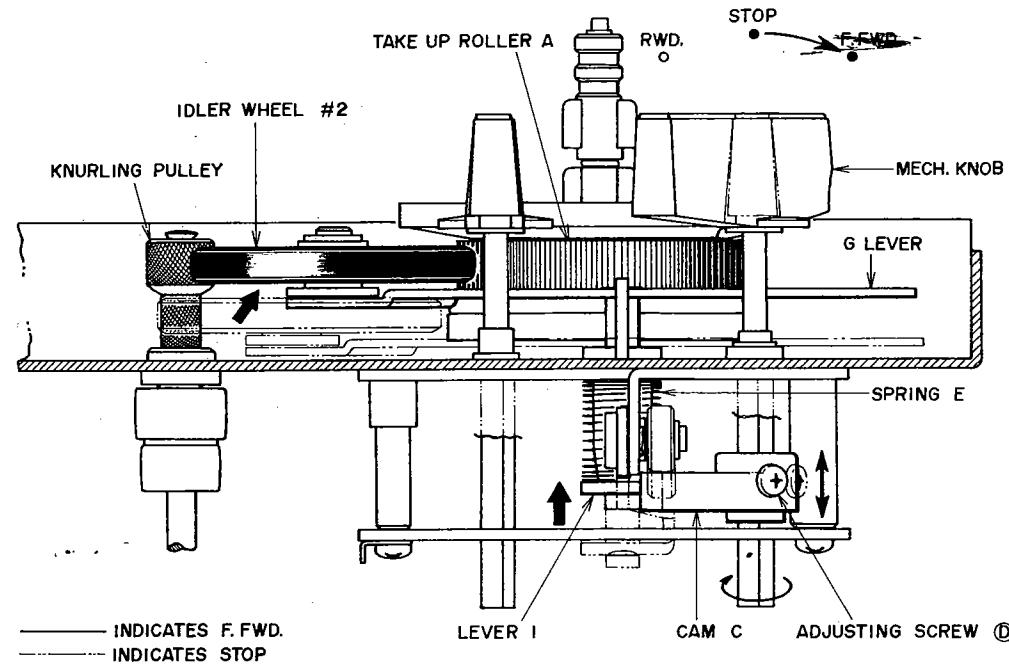

Fig. 15
Move Cam (C) shown in Fig. 15 up and down as indicated by the arrow mark (\leftrightarrow) in the figure and adjust Lever (G) height so that Idler #2 contact between Take Up Roller A and the knurling Pulley is uniform when the F.FWD/RWD Lever is set to F.FWD position. Fix at adjusted position with Adjustment Screw (D).